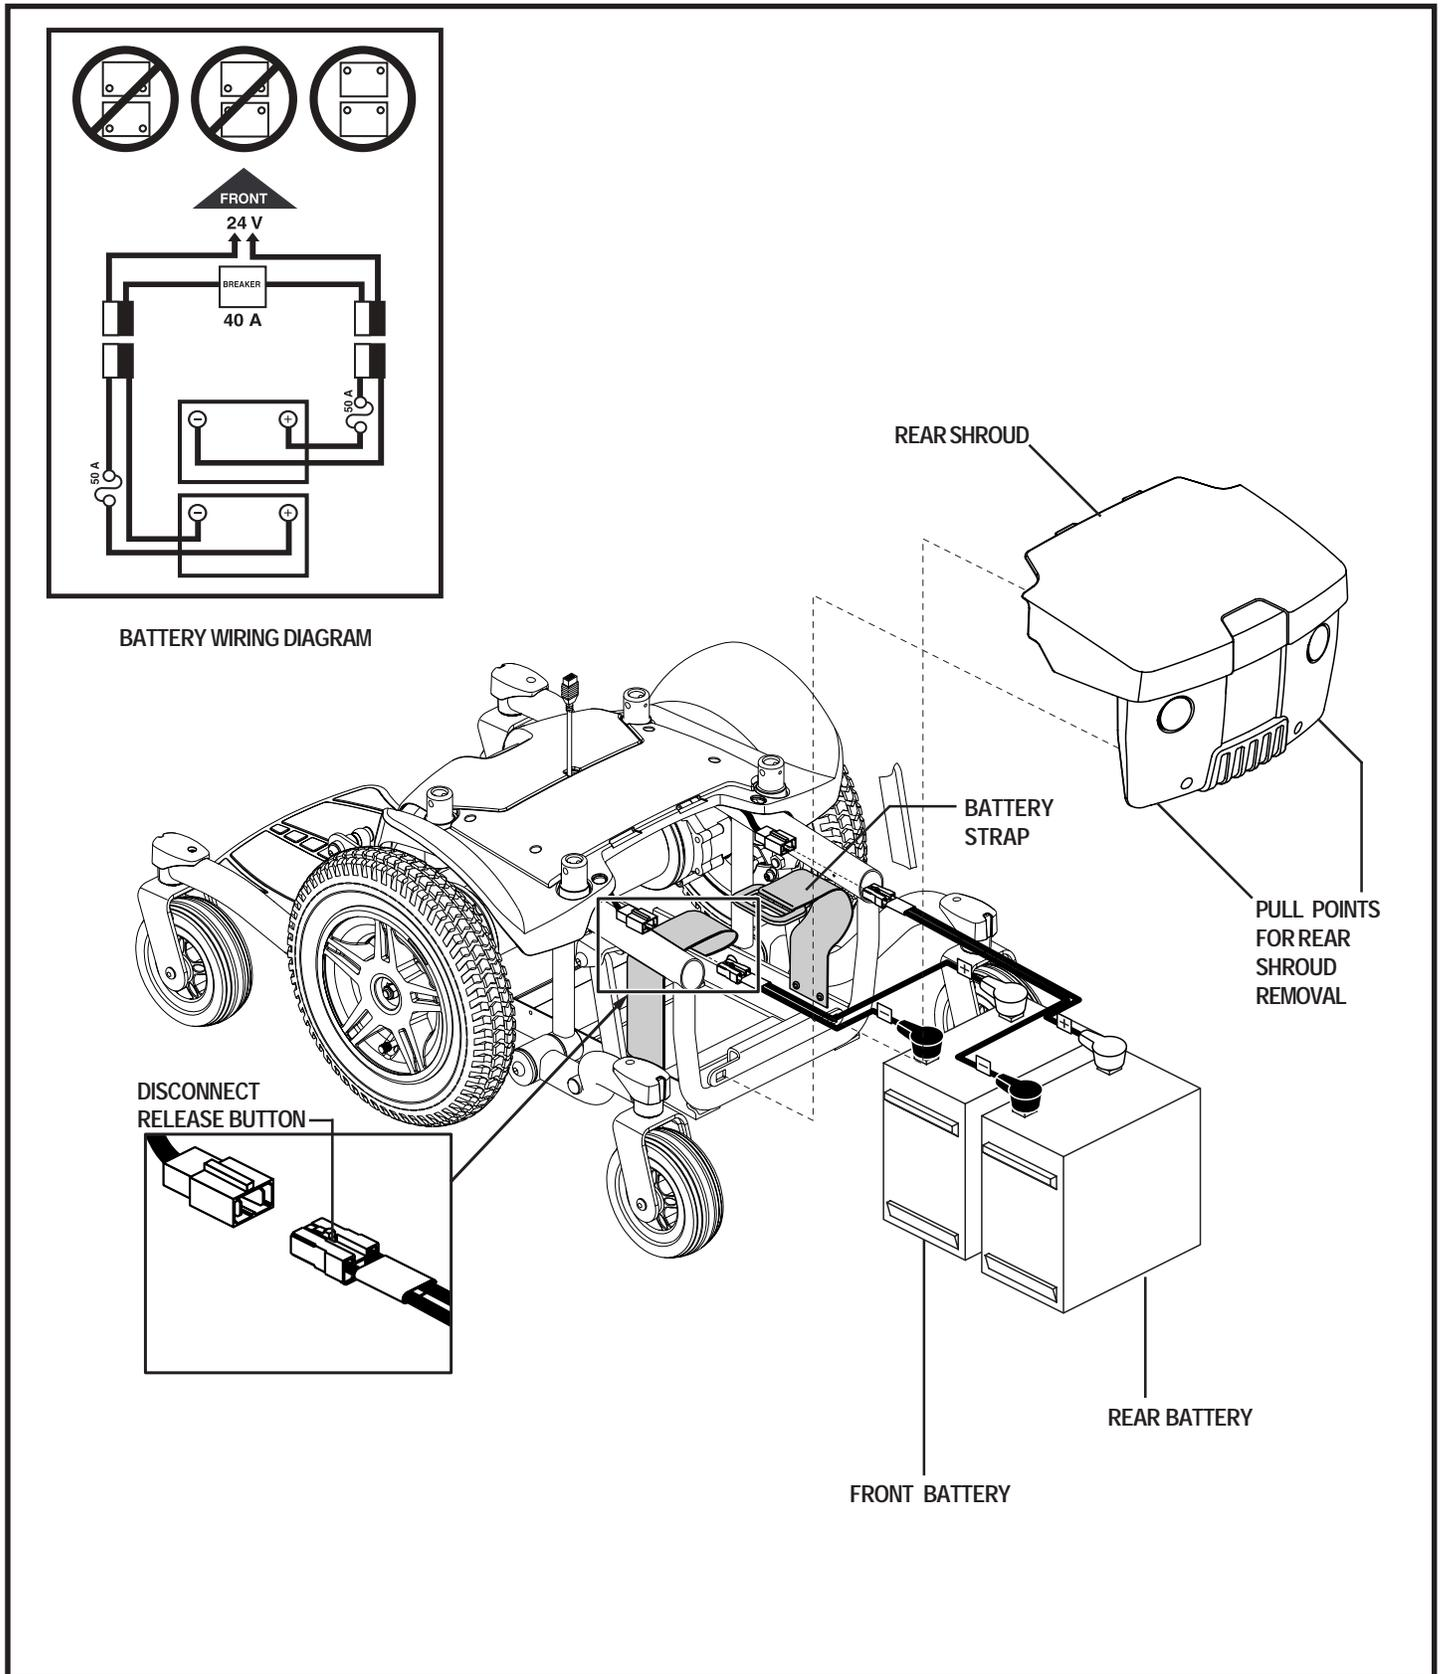

Figure 22. Battery Installation
A battery wiring diagram is printed on a decal located on the front battery tray. See figure 22. See VI. “Batteries and Charging” for correct battery specifications.
3. Pull to remove the rear shroud. See figure 22.
4. Push down on the disconnect release button and disconnect the rear battery harness from the power base. See figure 22.
7. Push down on the disconnect release button and disconnect the front battery harness from the power base. See figure 22.
10. Install a battery harness onto each new battery according to the battery wiring diagram. See figure 22. Make sure that you connect the red wire to the positive (+) battery terminal and the black wire to the negative (-) battery terminal for each battery.